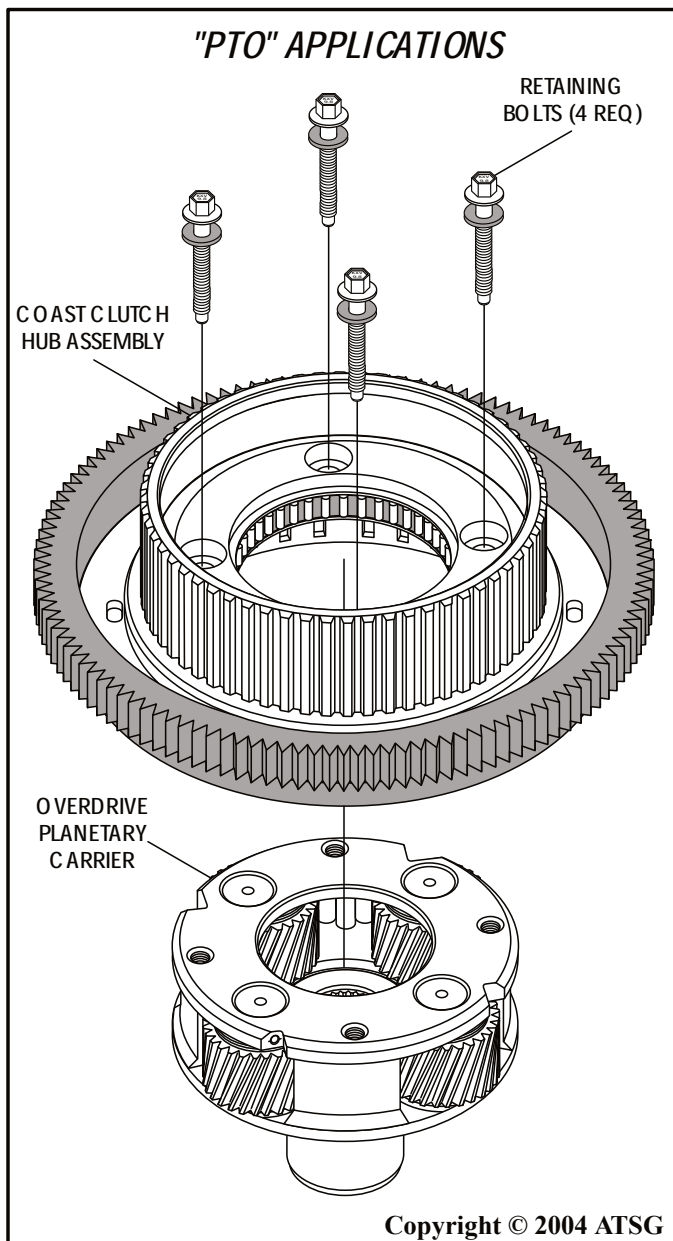
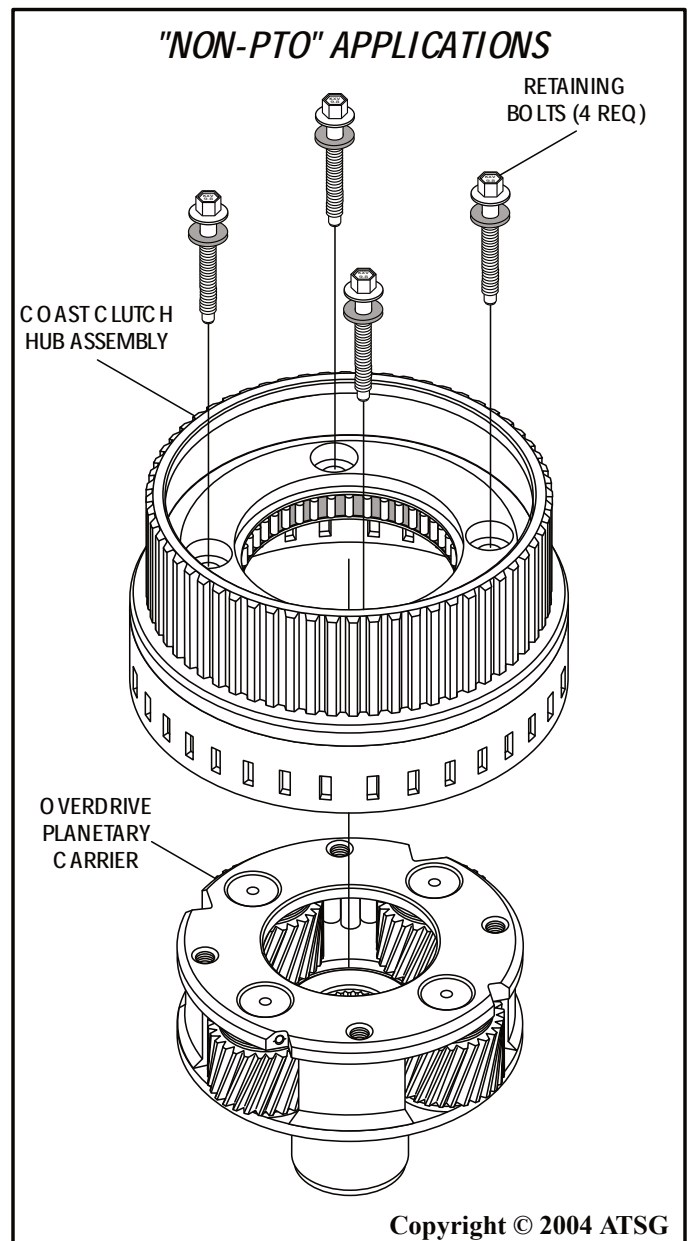

Figure 103
Figure 104
4. If it does become necessary to replace either overdrive planetary carrier or the coast clutch hub, remove the bolts as shown in Figure 103 and Figure 104.